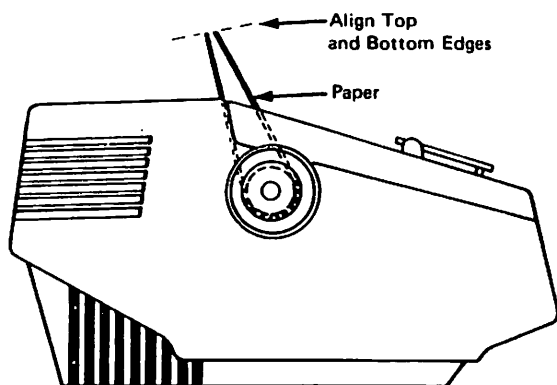

Figure 15 Straighten paper
5. One way to straighten paper is to line up the top edge of the paper with the bottom edge. Compare the edges of the paper as shown in Figure 15. If the edges do not align, gently pull the paper into alignment. The left edge of the paper should align with the small red dot on the cardholder.